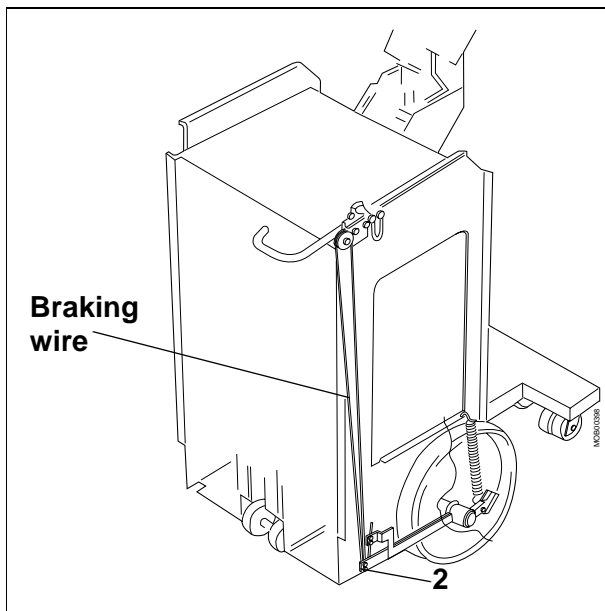

Fig. 25
- Loosen the wire locking screws (2) with the brake released (Fig. 25).